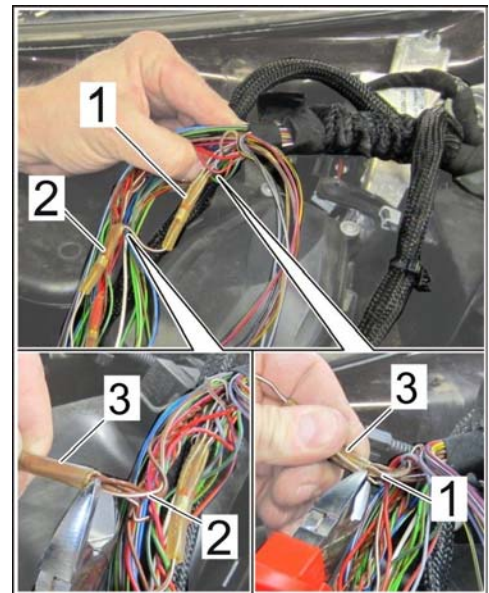

Figure 6
There are two ground splice connections in the unpinned line. These splice connections are referred to below as “splice connection 1” (⇒ *Figure 6 -item 1-*) and “splice connection 2” (⇒ *Figure 6 -item 2-*).
- 6.1 Cut the lines **after** splice connection 1 ⇒ *Figure 6 -1-* as close as possible to the shrink-fit tubing ⇒ *Figure 6 -3-*.
- 6.2 Cut the lines **after** splice **connection 2** ⇒ *Figure 6 -2-* as close as possible to the shrink-fit tubing ⇒ *Figure 6 -3-*.